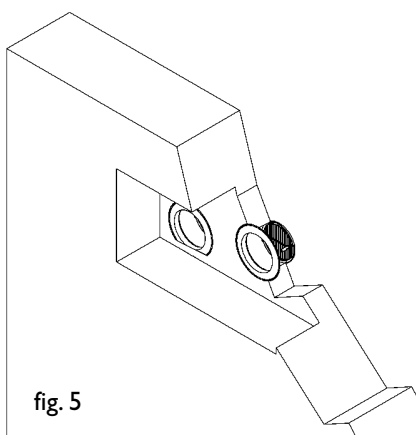

fig. 5
6. Apply junk rings or appropriately insulated flanges on the pipes in order to guarantee ideal contact between the air conditioner and the holes (see Figure 5).